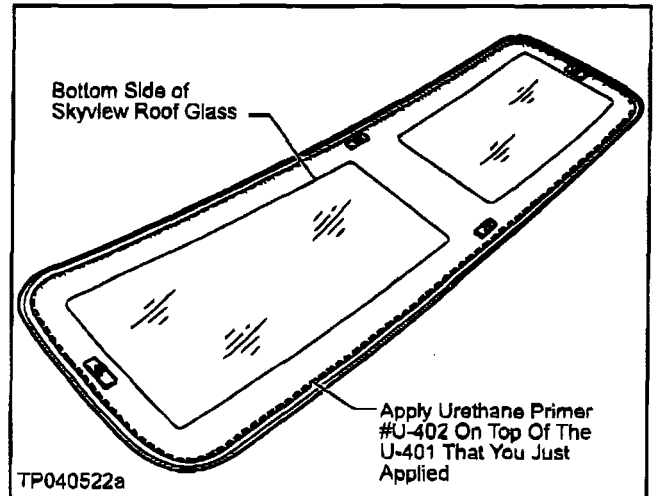

Figure 9
12. Apply this second Urethane Primer to the new Skyview Roof Glass (over the U-401 Primer). See Figure 9.
- Apply Primer around the Glass on top of the U-401 that you just applied (see Figure 9).